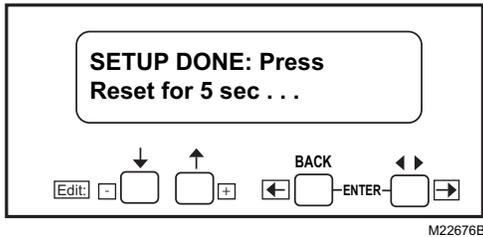

Fig. 22. Setup Done screen.
- 22. Press the down arrow to confirm the correct post-purge time. "Getting Data" will be displayed until the screen in Fig. 22 appears.